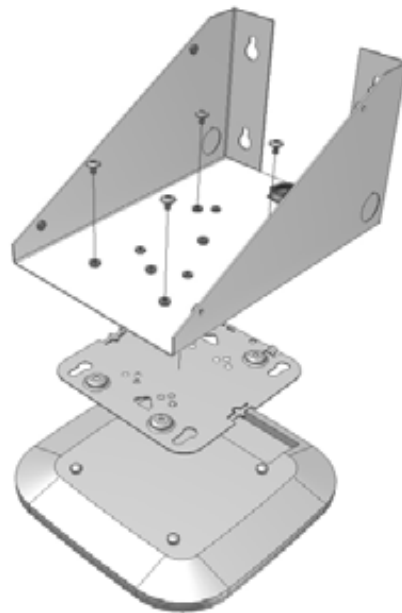

Figure 1
Step 1 – Place the *mount assembly* on the work surface with the cover off (Figure 1).